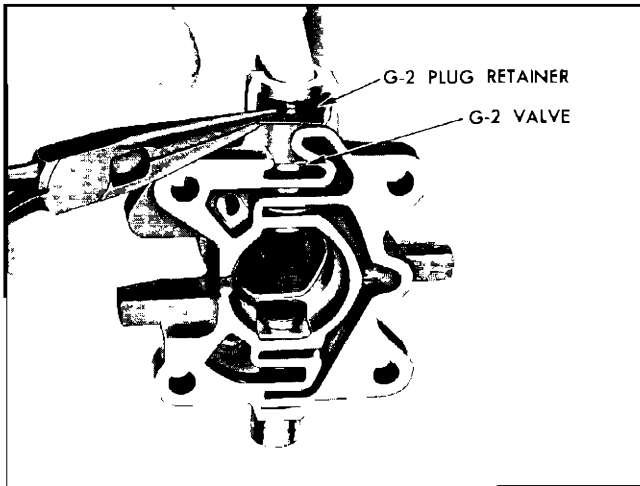

Fig. 91 Removing G-2 Plug Retainer
1. Compress finer of G-2 plug retainer and remove (Fig. 91).
2. Remove G-2 plug and G-2 valve (Fig. 91).